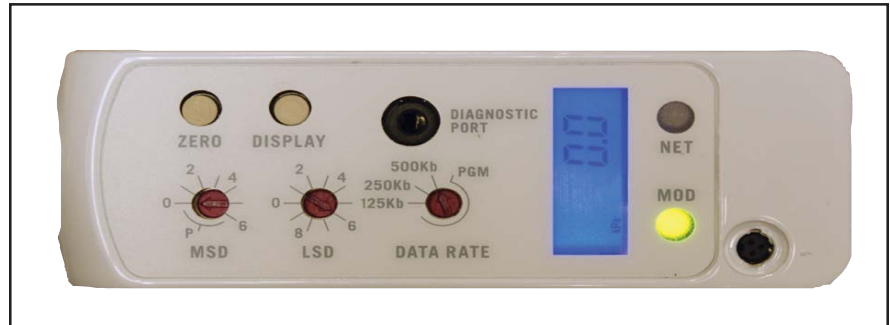

Figure 2-9 % Flow Display Set to Zero
3. Press and hold down the Zero button for a minimum of 5 seconds or until the "%FS" display reads 0.0 as shown in Figure 2-9. The %FS label will flash during this procedure.